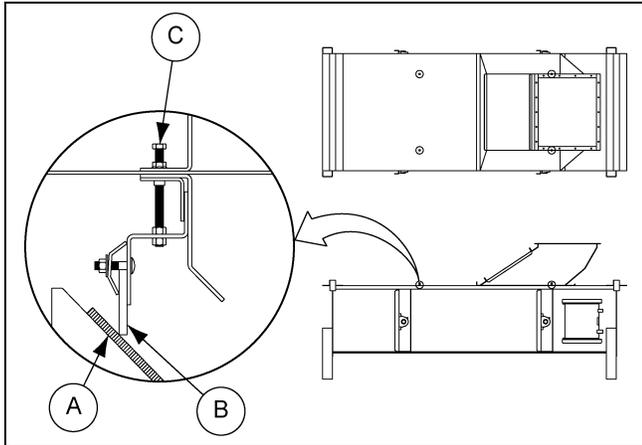

Figure 6A Roller Flo Loader Skirt Adjustment
5. Adjust loader skirt to just above the belt. *(See Figure 6A and 6B on Page 51.)*